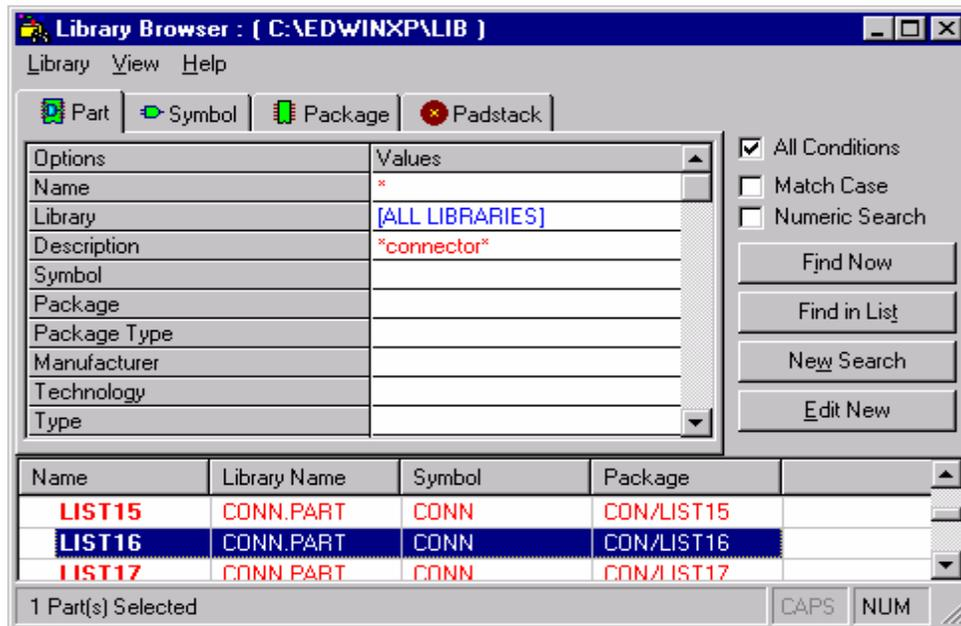

Fig. 4.7
- Half adder needs to make connections to a voltage source, Ground and signal generators for the two inputs. These are external sources (which will not be housed on the PCB) and hence connections to them can be shown with the help of connectors. Take Library Browser to get the pop up window as shown in Fig. 4.7 and type '\* 'in the Name field and '\*connector\*' in the Description field as shown below and press Find Now. The Library Browser will display all the components in the Library with the word connector in its Description (which is entered at the time of Part creation). In the list of parts that appear, select LIST6 since we 6 input output connections.